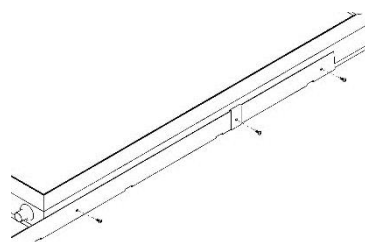
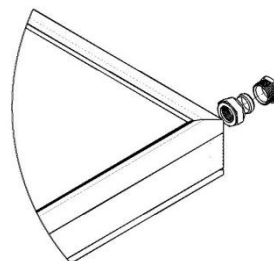

Figure 6.3 Collector Mounting
Figure 6.4 Compression Plug
13. Using the self-drilling screws supplied, screw fix the collector rail to the collectors as shown in Figure 6.3. Use two (2) per collector.
14. Finally, using two (2) of the self-drilling screws supplied, screw fix the collector straps to the collector rail and collector/s. The collector/s are now mounted.
15. Continuing, slide a Compression Plug assembly (Figure 6.4) to the top left and bottom right corners of the collector array.